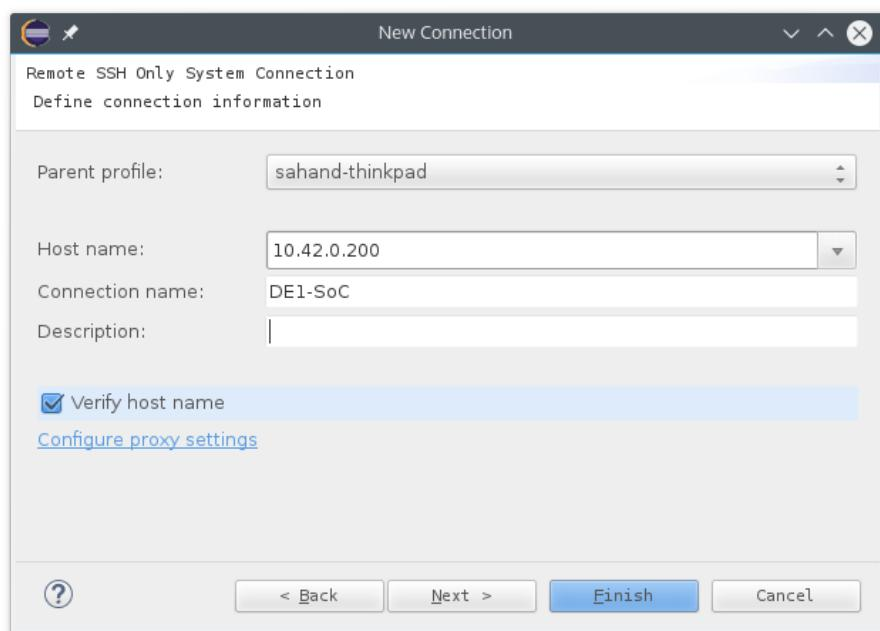

Figure 13-12. New SSH Only Connection
73. Enter “DE1-SoC” as the “Connection name”. You should have something similar to Figure 13-12.